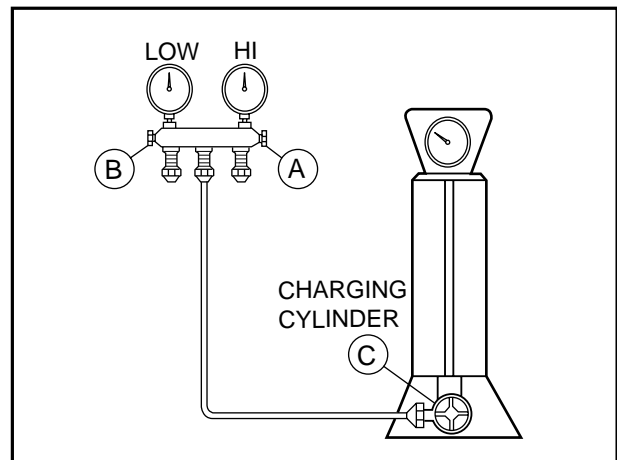

Figure 18B-Charging
- 2) Connect the charging cylinder as shown in figure 18B, on page 11.
- 4) Remove the hose from the vacuum pump and place it on the charging cylinder. See figure 18B, on page 11.